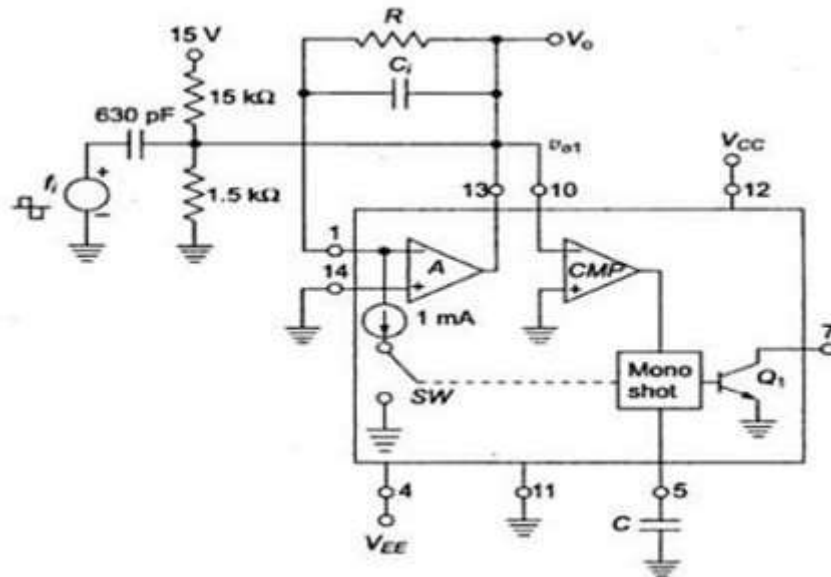

Figure 5.10.2 Frequency to voltage converter using VFC32
- Frequency to voltage converter using VFC32 is shown in figure 5.10.2.